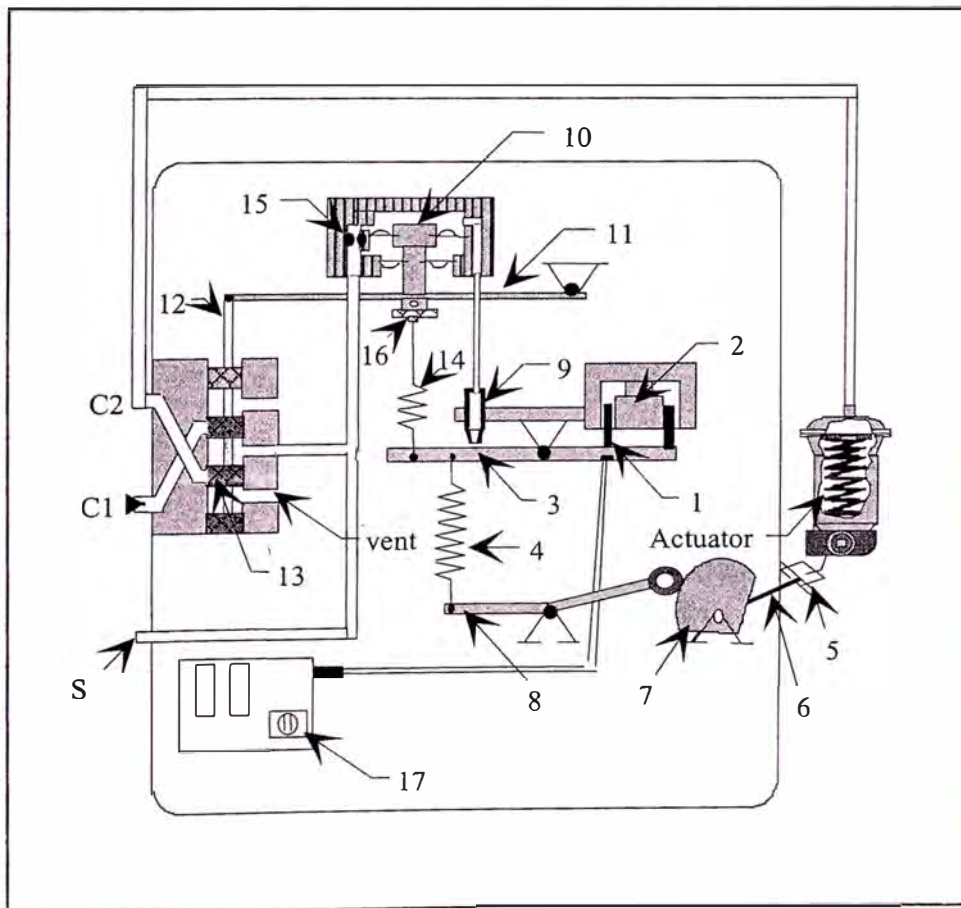
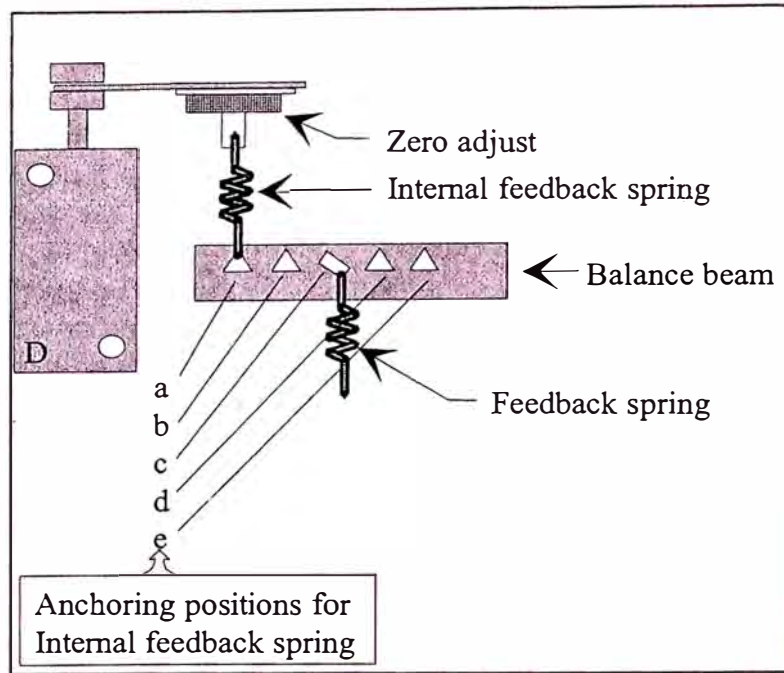

Figure 1. Positioner schematic
Figure 6. Feedback spring attachment
- A. Check cam and remount it as necessary. Correct position of the cam is when the arrow stamped on the cam is pointing downward on the 0.5 - 2 in side. See Figure 6 for correct orientation of cam.
3. Install the outer bearings by using a small brass hammer or bearing tool as shown in Figure 1 on the next page.
7. Install the idler pulley with cap screws. Place a block between the vanes during the tightening process to keep the vanes from turning as shown in Figures 6 and 7.
Refer to Figure 1 in following the description of the principle of operation. Operation of the positioner is based on the balanced torque principle.
The internal feedback spring is identified on Figure 1 as item (14). Figure 6 above is an expanded view of the attachment mechanism for this spring.